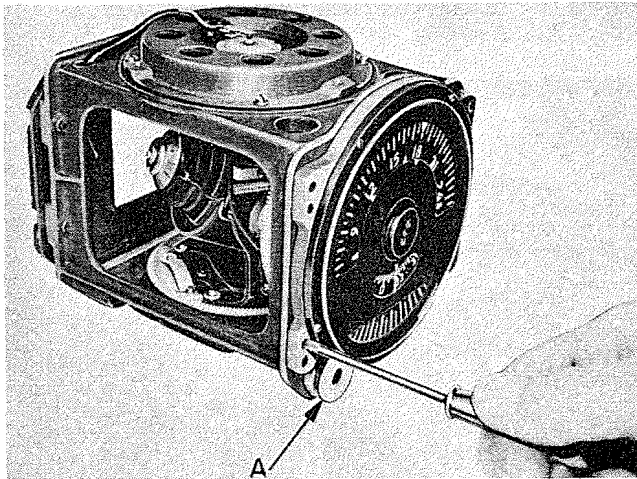

Figure 13
(5) Take out the four fillister head machine screws and lock washers, and withdraw the dial assembly. (See figure 13.) On instruments which have a course indicator, the flange of the disc assembly (A, figure 13) fits between the dial and the course indicator, and slides out of its bushing when the dial assembly is withdrawn. Place the disc assembly on the course setting shaft until ready for cleaning and inspection.